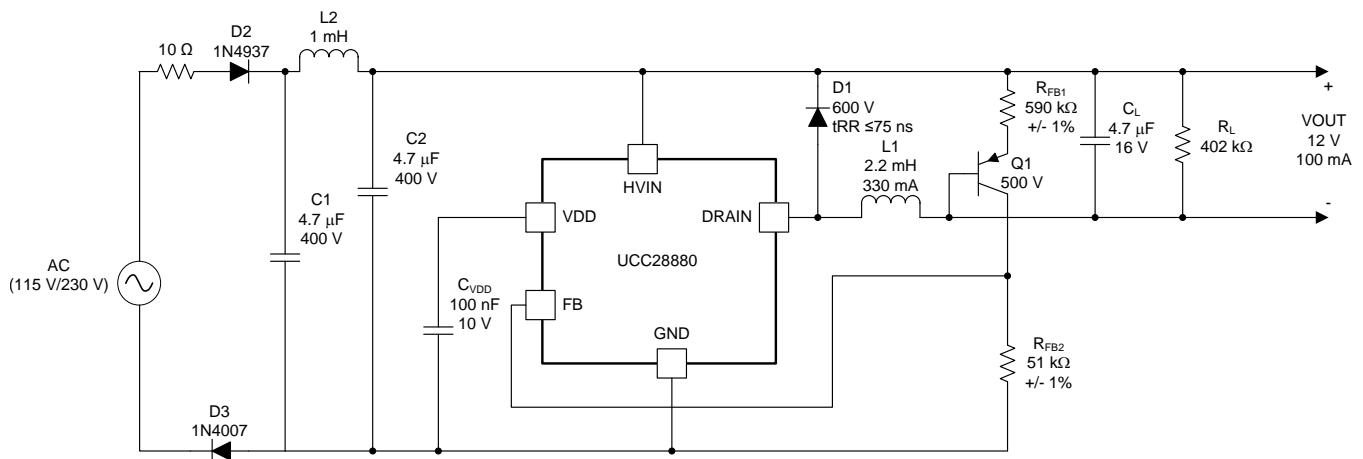

Figure 14. Universal Input, 12-V, 100-mA Output Low-Side Buck
Figure 14 shows a typical application example of a non-isolated power supply, where the UCC28880 is connected in a low-side buck configuration having an output voltage that is negative with respect to the positive input voltage (VIN+). The output voltage is set to 12 V in this example, but can easily be changed by changing the value of RFB1. This application can be used for a wide variety of household appliances and automation, or any other applications where mains isolation is not required.
- C_{BULK(min)} is minimum value for the total input capacitor value (C1 + C2 in the schematic of Figure 14).